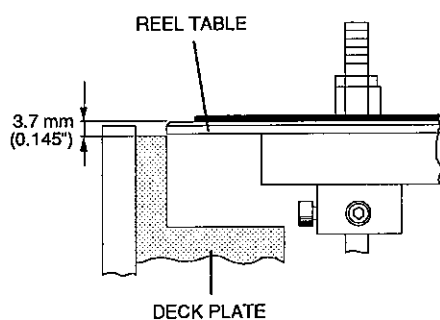

Figure 4-8
3. Measure the distance from the top surface of the cast Deck Plate to the metal surface of the reel table. If the distance is 3.7 mm (0.145 in), then no adjustment is required. Refer to **Figure 4-8**.